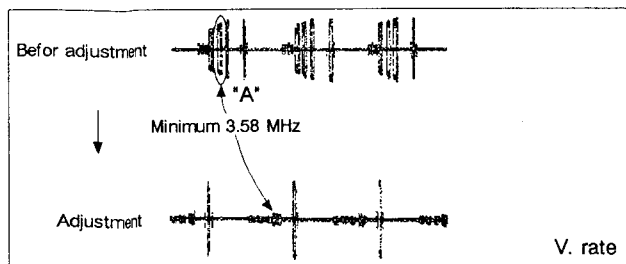

Fig. 3-1-12 C comb level
- 2) Adjust R328 and R333 alternately for minimum 3.58 MHz level "A", as in Fig. 3-1-12.